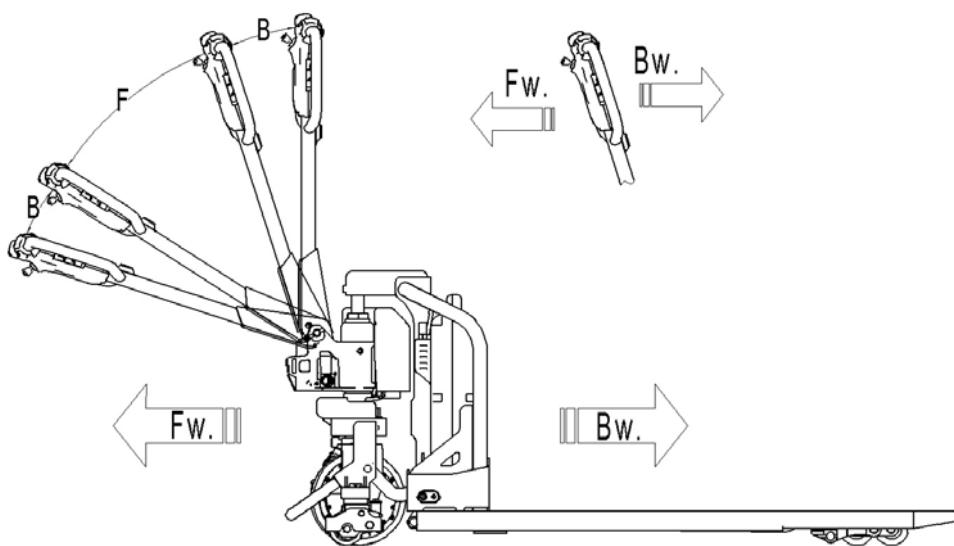

Fig. 9: Operating direction
Connect the battery plug (11), insert the key and turn the key switch (13) clockwise,move the tiller to the operating one ('F', fig.9).
Turn the accelerator button(2) to the desired direction forward 'Fw.' or backwards 'Bw.'(fig. 9).